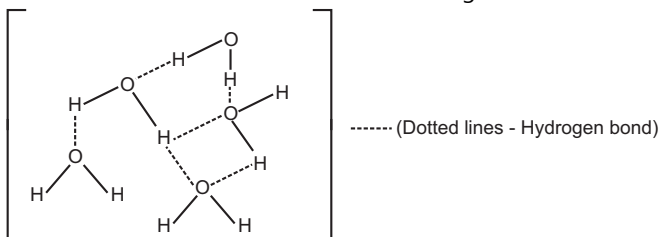

Fig. 1.3: Hydrogen bonding in water molecules
- In water, there is a intermolecular hydrogen bonding i.e. hydrogen atoms in one molecule form a weak hydrogen bond with oxygen atom of other molecules resulting in the cluster of water molecules as shown in Fig. 1.3.